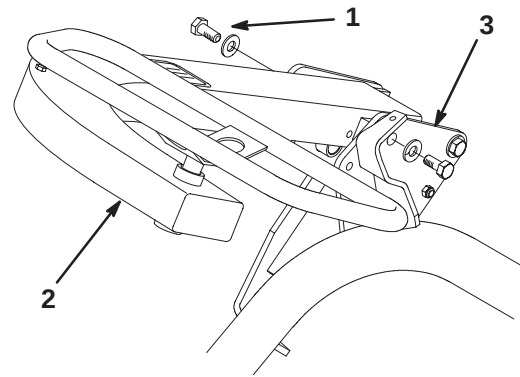

Figure 5
3. Select the desired mounting hole for operator comfort and secure the arm with 2 capscrews (1/2 x 3/4 in.) and washers (1/2 in.) (one each in loose parts) (Fig. 5).